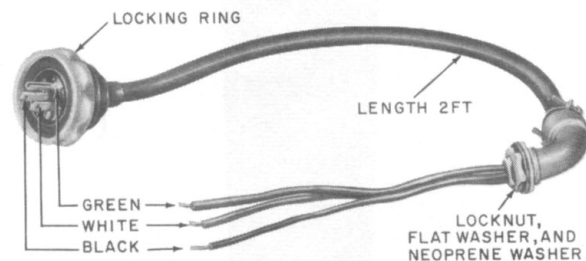

Fig. 4—KS-19580, List 30 Power Cord Assembly
2.12 A KS-19580, List 30 power cord assembly (Fig. 4) is used to bring overhead power into an **outdoor** booth.